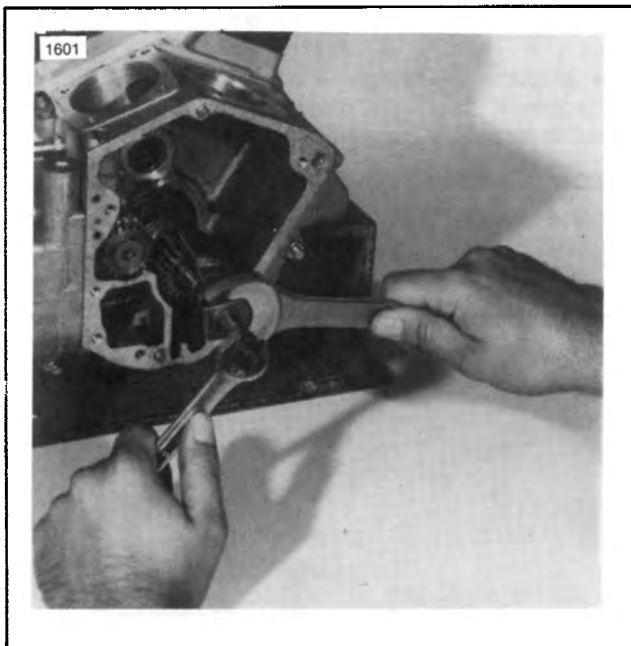

Figure 3-32. Pulling Pinion Gear
3. Remove two ignition sensor cover screws (6), cover (7) and gasket (8).
4. Remove sensor plate screws and lockwashers (9).
6. Remove screw (11) and rotor (12).
8. Tap gearcase cover with soft face mallet to loosen and remove gear cover (16) and gearcase cover gasket (17).
9. Remove breather valve spacing washer (18) and breather gear (19).
10. Remove cam gear and camshaft (20), spacing washer (21) and thrust washer (22).
11. Remove pinion gear shaft nut (23) which has a left hand thread. Use PINION SHAFT NUT SOCKET, Part No. HD-94555-55A.
12. See Figure 3-32. Pull pinion gear using PINION GEAR PULLER AND INSTALLER, Part No. HD96830-51A. Tool has lefthand threads.